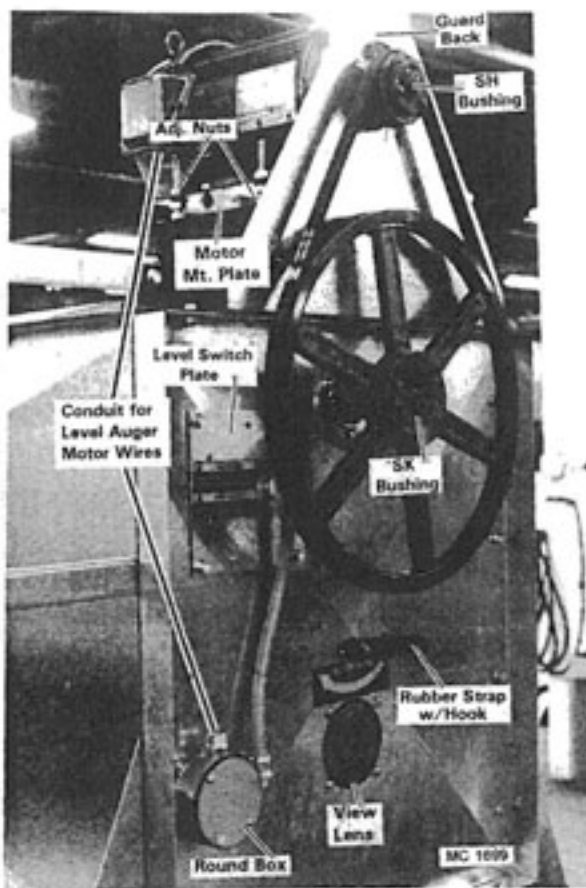

Figure 4
1. Bolt the level auger motor to the motor mount plate. Use $\frac{3}{8}$ -16 x $1\frac{1}{4}$ " (9.5 x 31.75mm) capscrews and flanged locknuts on 3HP single phase motors and 5/16-18 x $\frac{3}{4}$ " (7.9 x 19mm) capscrews and flanged locknuts on 3HP (570/670/690) and 5HP (970) three phase motors.
2. Put four $\frac{1}{2}$ -13 x $3\frac{1}{2}$ " (12.7 x 89mm) full thread capscrews in the level auger motor mount and lock in place with flanged locknuts. Thread a $\frac{1}{2}$ -13 (12.7mm) hex nut onto each capscREW and install the motor mount plate with motor, see Figure 4.
3. Install the level auger guard back as shown in Figure 4. Install a $\frac{1}{4}$ " x $\frac{1}{4}$ " x 2" (6.35 x 6.35 x 51mm) key in the level auger shaft and a $\frac{1}{4}$ " x $\frac{1}{4}$ " x $1\frac{3}{4}$ " (6.35 x 6.35 x 44.5mm) key in the 3HP motor shaft or 5HP motor shaft.
- Install the rubber strap with hook to the front end panel as shown in Figure 4. Hook the level auger guard over the top of the guard back and secure with the rubber strap and hook.
- Remove the level auger motor junction box cover and the round junction box cover. Connect the flexible conduit and wire assembly 36" long (91.5cm) to the motor and round box. See Figure 4.
- Connect the flexible conduit to the bottom of the round junction box on the hopper front end panel. See Figure 4.
- Connect the (2) yellow wires imprinted TB24 → LSW-C together and connect the (2) yellow wires imprinted LSW-NC → LASW together.
- Connect the (2) black wires together, (2) red wires together and (2) blue wires together (blue used on three phase dryers only). There are (2) green motor ground wires that also must be connected.